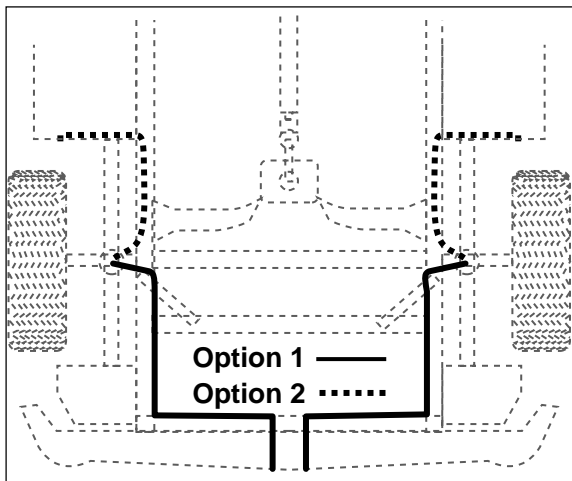

Figure 4 - DUAL AIR LINE
- E. Route air line along frame or under fender panel to desired inflation valve location (Figure 4). Attach air line to chassis with plastic straps or wire.